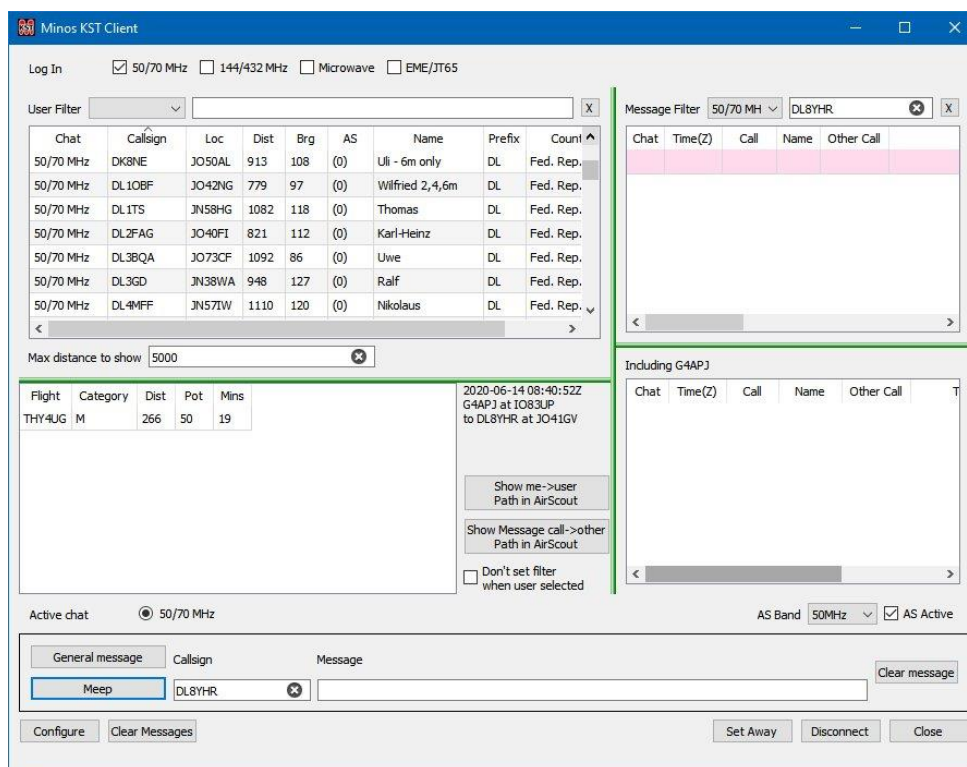

Figure 151 – Airscout operational in KST Client
Once the connection is established¹⁴⁴ additional information (AS) is displayed in the User panel (on the left), and a new panel appears bottom left (Figure 151).